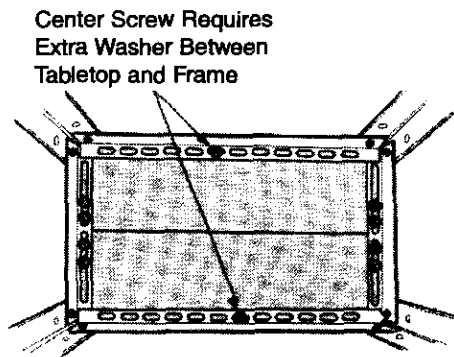

Figure 6 – Attaching the Top
- Place the boards together and then place the assembled frame on the boards. Attach frame to boards using wood screws and washers through the slots in the frame (see Figure 6).